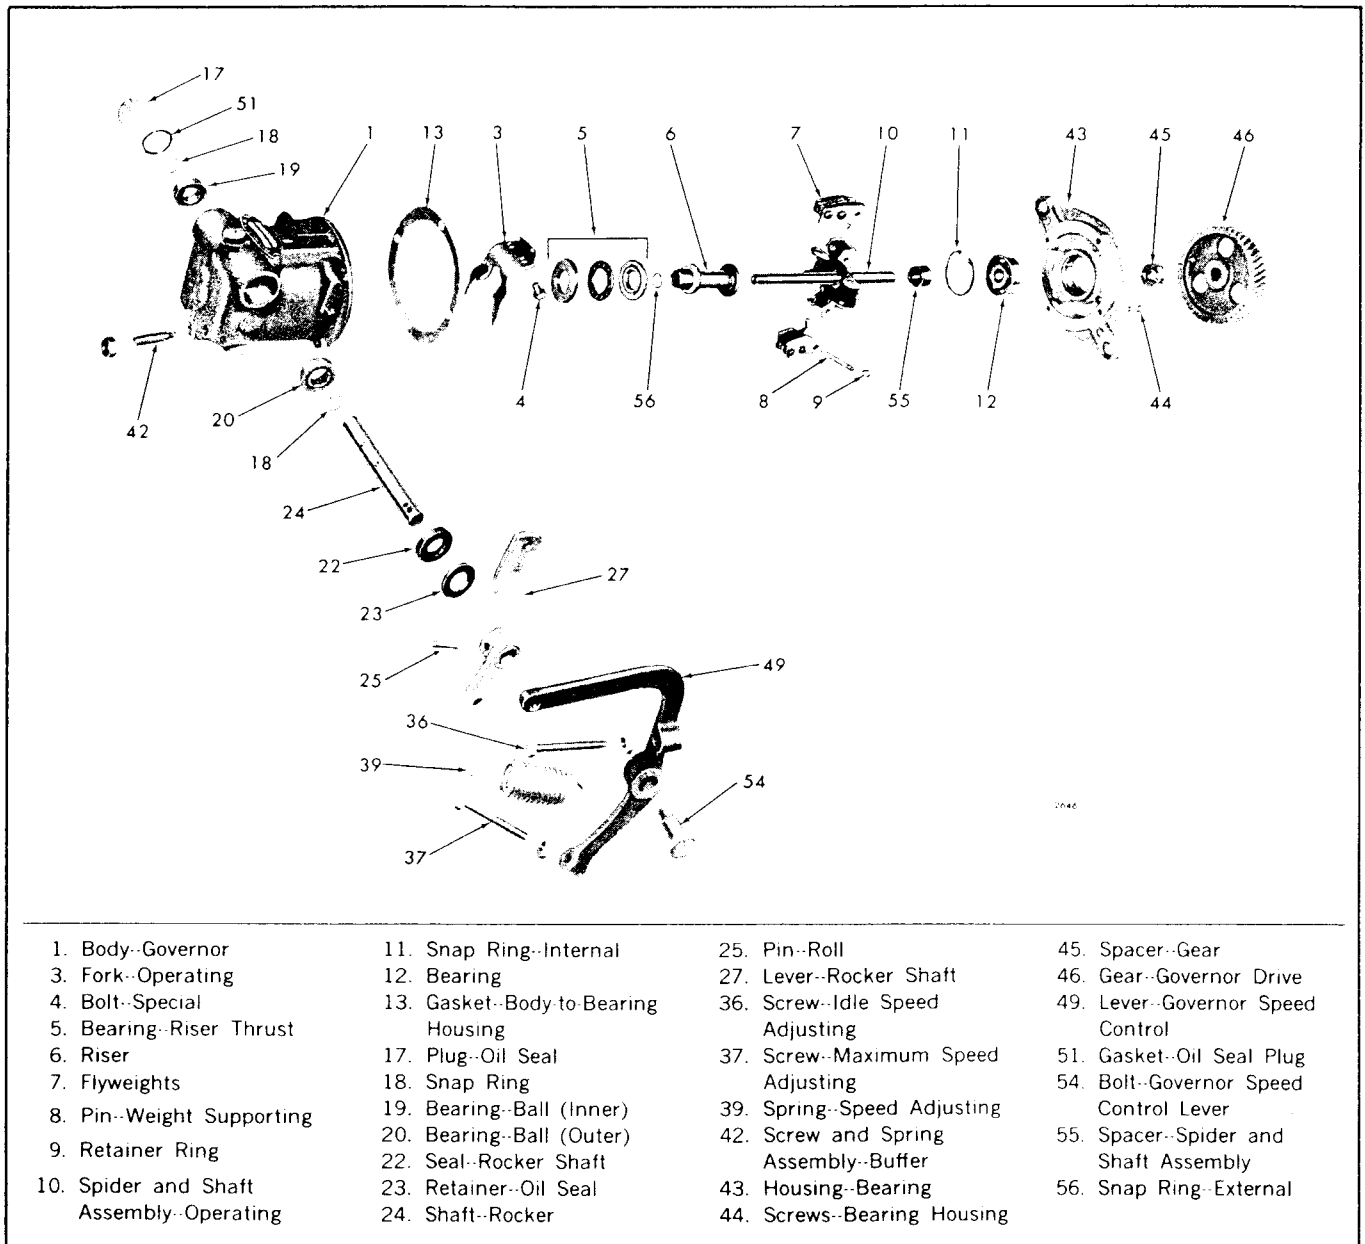

Fig. 3 - Governor Details and Relative Location of Parts
9. Refer to Fig. 3 and attach the variable speed spring and housing to the governor as follows: